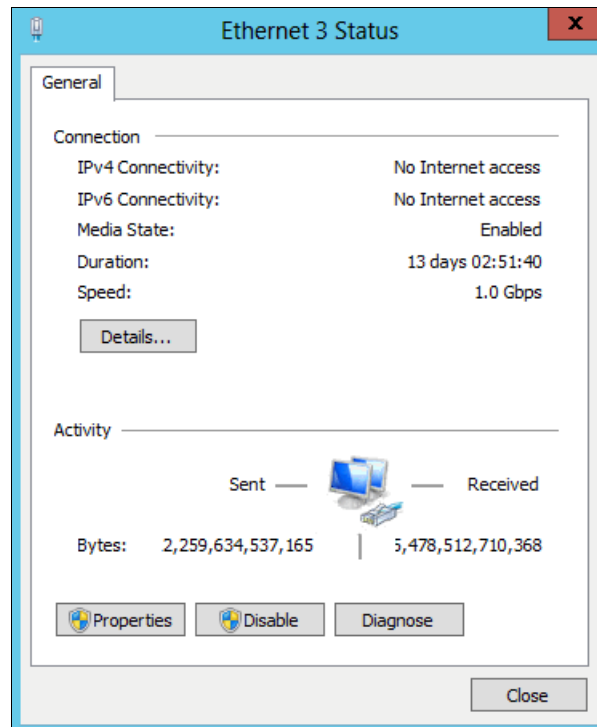

Figure 5-14 Ethernet status
2. To configure an IP address, click one of the iSCSI Ethernet connections (in this case, Ethernet 3 or Ethernet 4). Figure 5-14 shows the window that displays the Ethernet status.